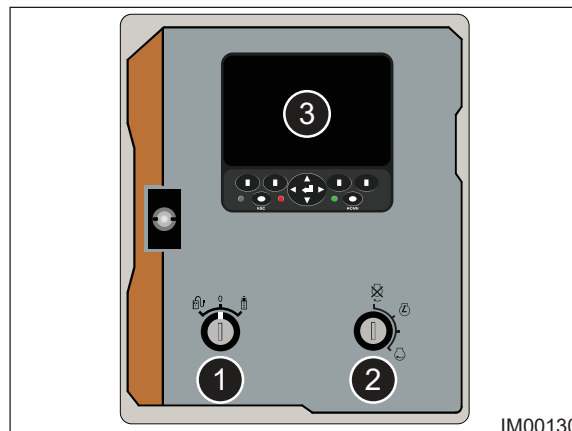
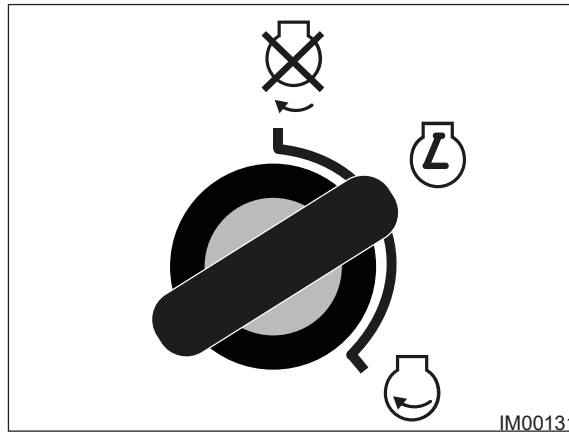

Fig: 5.2 - Control Panel
Fig: 5.3 - Ignition First Click Position
5. Ensure the Track Switch (Item 1, Fig: 5.2) is in the Neutral / Off position.
6. Insert the Ignition Key (Item 2, Fig: 5.2) and rotate to the First Click position (Fig: 5.3).
◇ Allow the display (Item 3, Fig: 5.2) to power-up.